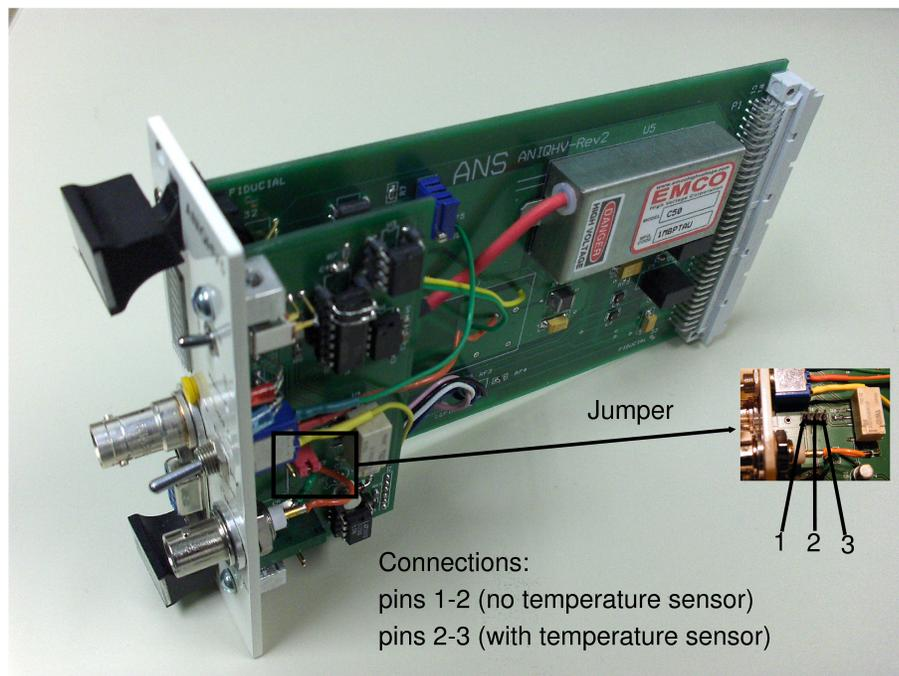

Figure 1: Side view of the ANIQHV5KV module.
- Auto ramp down by detecting the temperature signal. This option is selected using a jumper (See Fig. 1 for the jumper positions) to protect HPGe detectors.